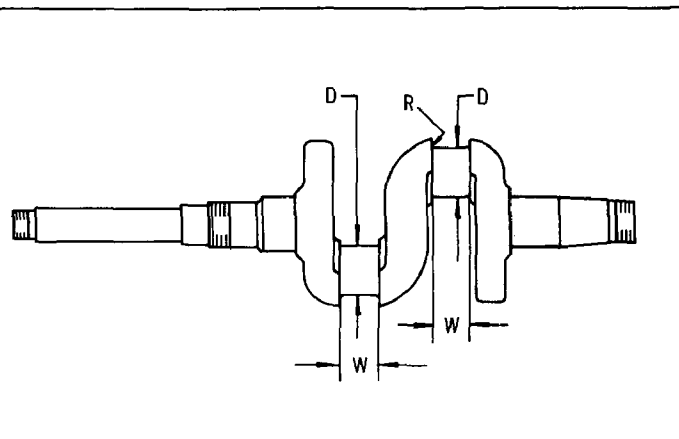

Fig. 6-4-14
- 3) Fit piston to cylinder bore—Measure diameter of piston in the center of thrust face at bottom of piston skirt. Refer to chart, Fig. 6-4-14 for clearance between piston and cylinder.